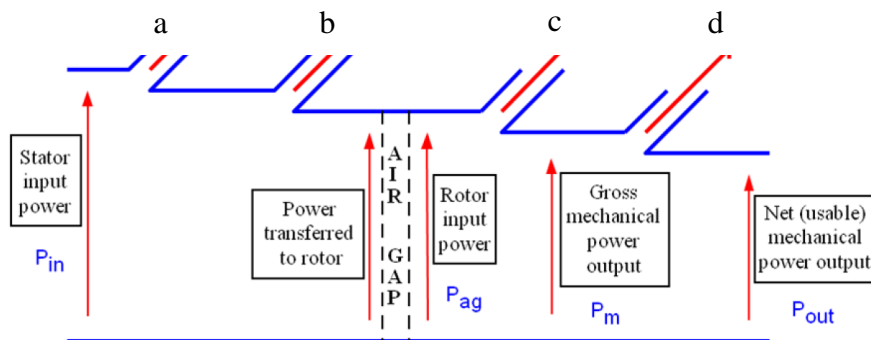

Fig.A2
- A2. When an induction motor is connected to a 3-phase supply, current flows in the primary circuit. There are four kinds of power losses. With the aim of Fig. A2, describe the meanings of: